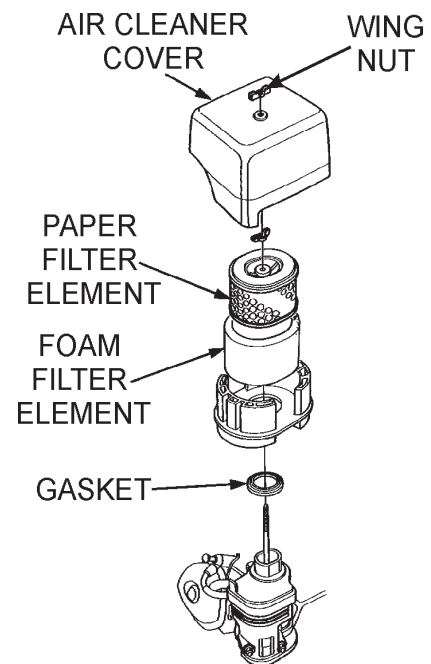

Figure 21. Engine Air Cleaner
1. Remove the air cleaner cover and foam filter element as shown in Figure 21.
2. Tap the paper filter element (Figure 21) several times on a hard surface to remove dirt, or blow compressed air [not exceeding 30 psi (207 kPa, 2.1 kgf/cm²)] through the filter element from the air cleaner case side. **NEVER** brush off dirt. Brushing will force dirt into the fibers. Replace the paper filter element if it is excessively dirty.